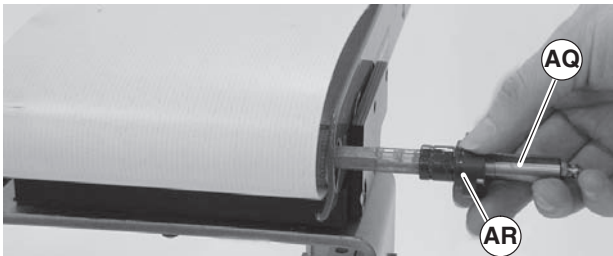

Figure 26
6. Pull outboard drive shaft (Figure 26, item AQ) and outboard bearing retaining sleeve (AR) from drive pulley.